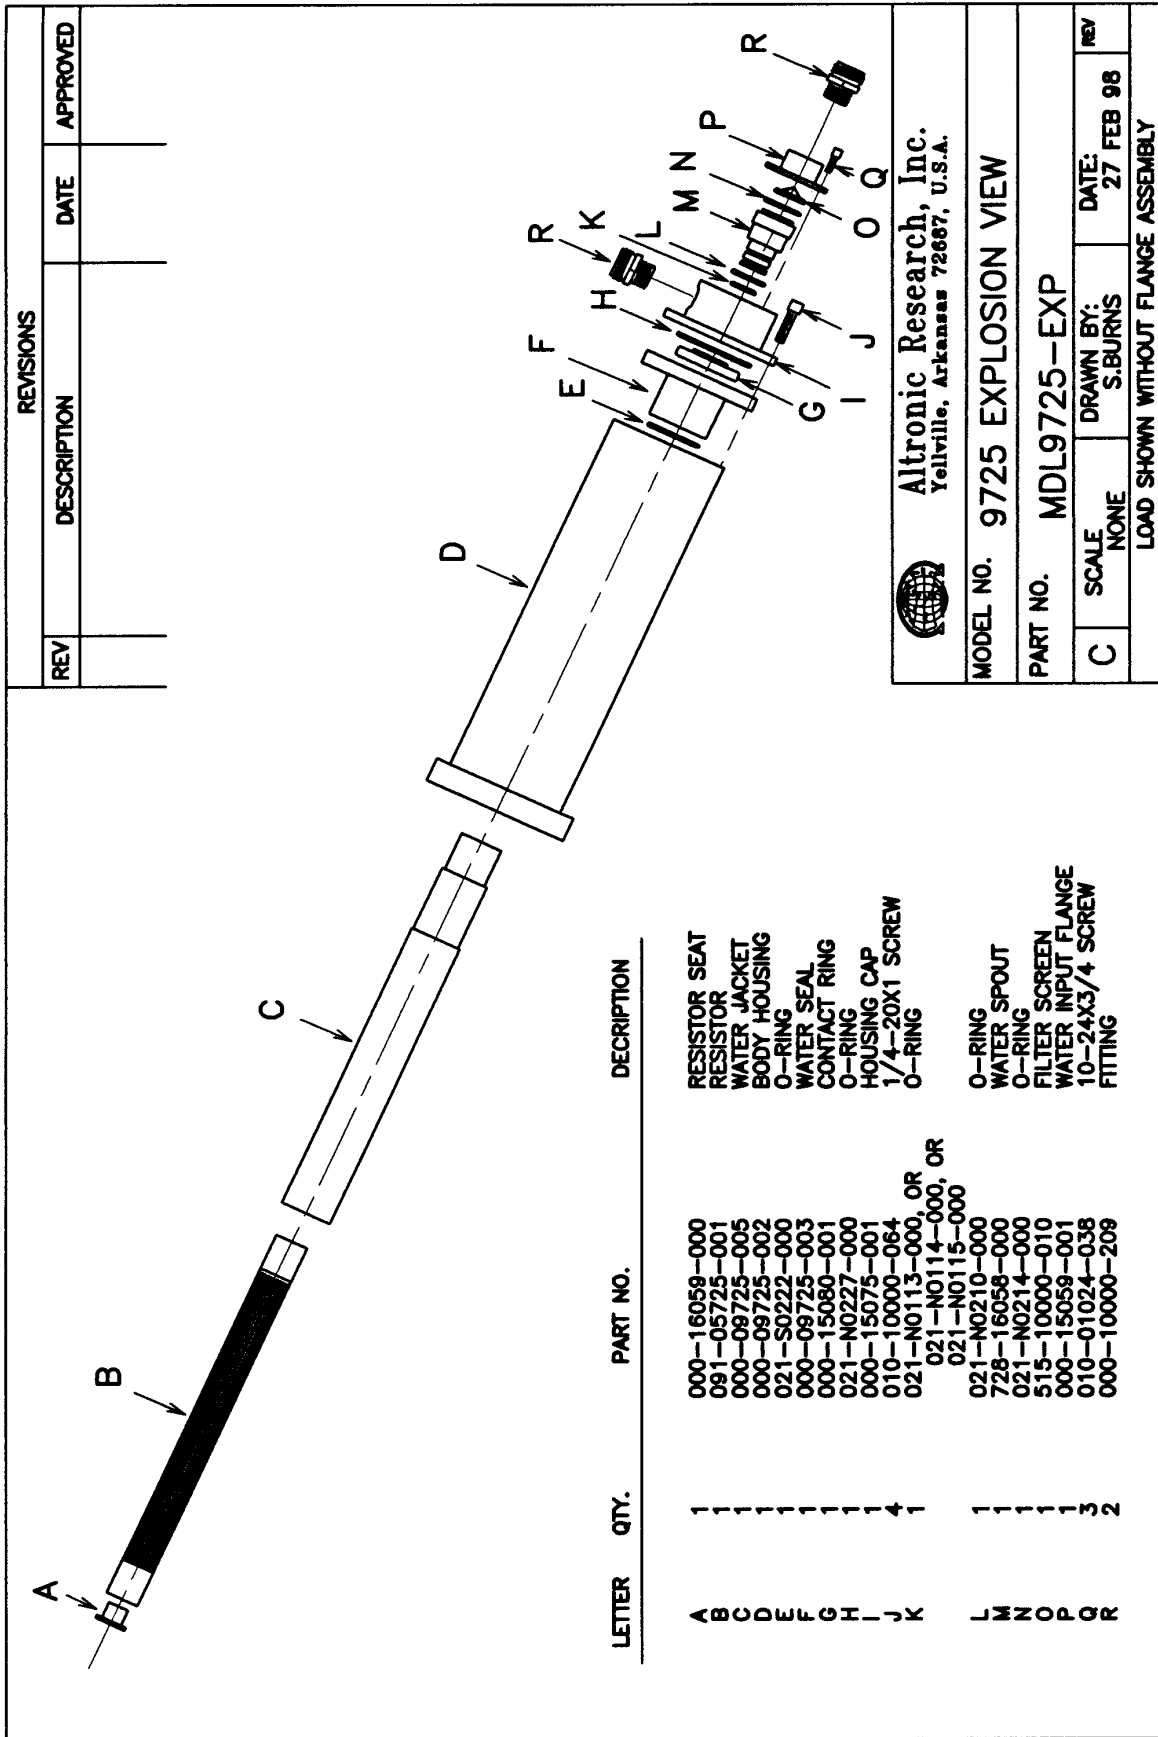
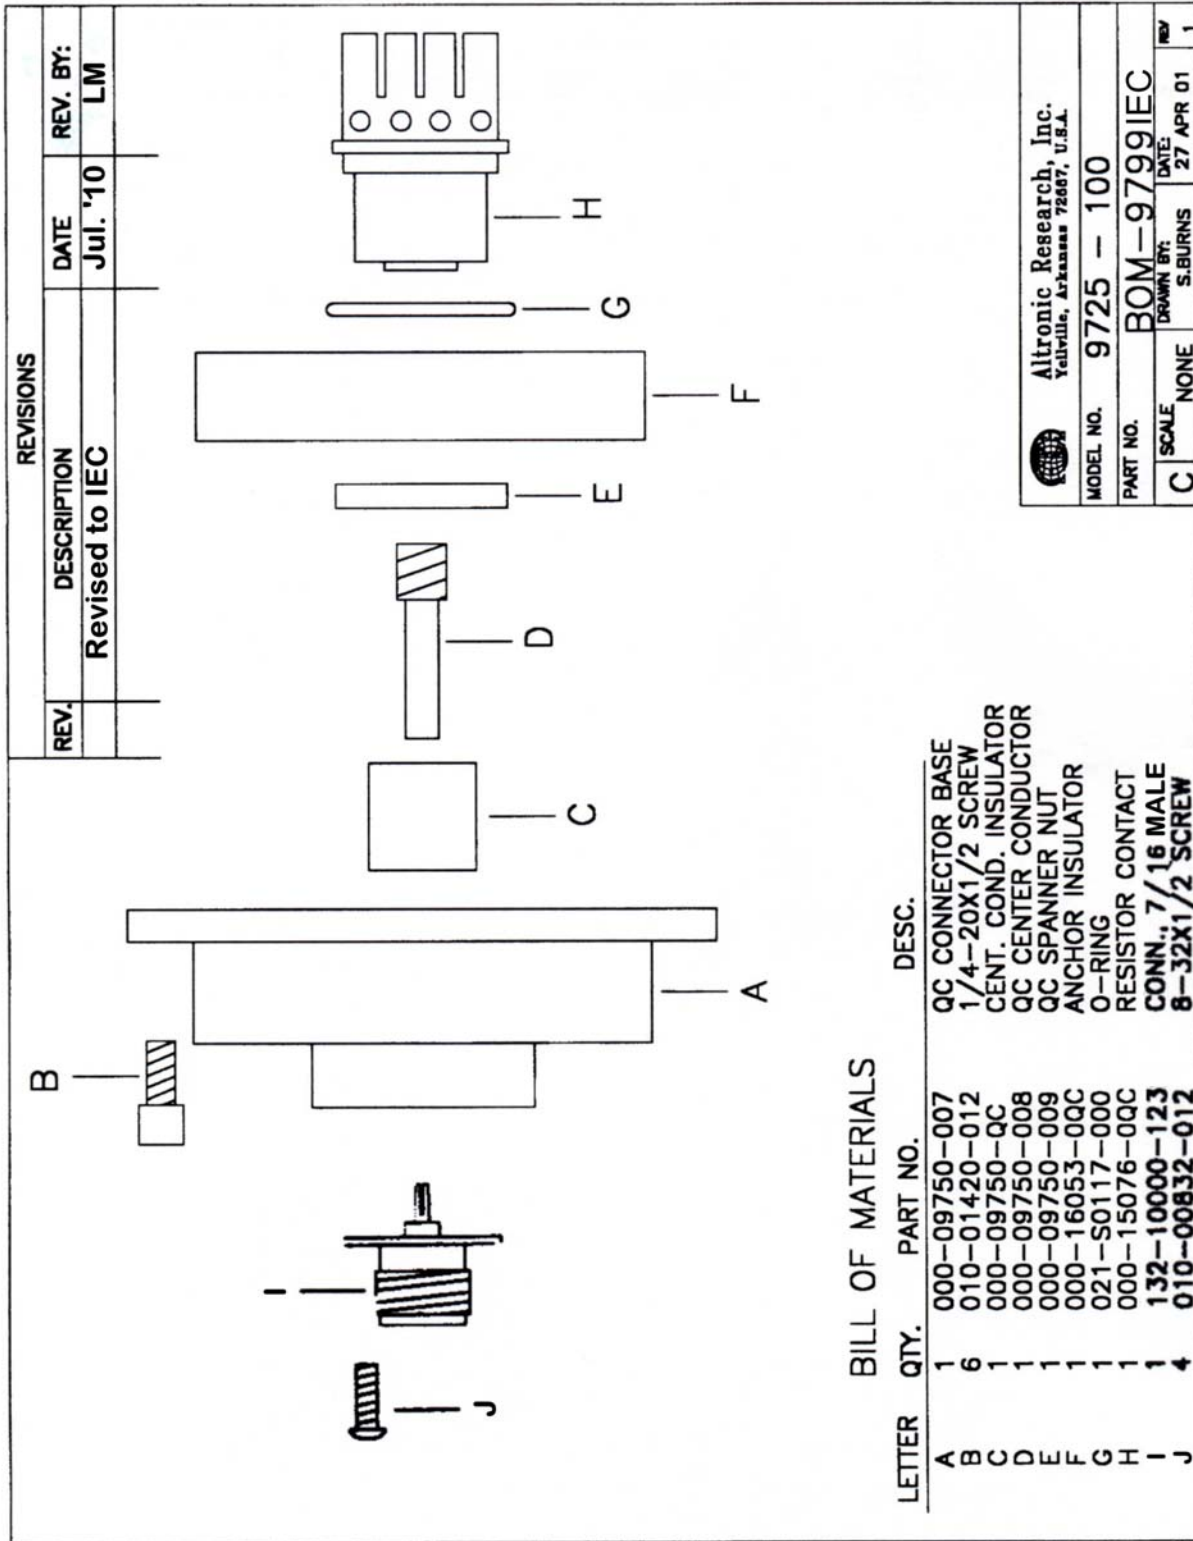

Fig. 14
Fig. 15
4. **Resistor Replacement** - (Refer to Fig. 14) To replace the resistor element, remove the three 10-24x3/8" cap screws (item Q). Remove water input assembly (items O, P, and R). Inspect filter screen for damage, replace if eroded or torn. Remove four 1/4-20x1" cap screws (item J). Remove housing cap assembly (items G, H, I, R, K, M and N). Inspect all O-rings for distortion or damage. Replace if pinched, cut, burned or no longer round in cross section. Inspect ring contact (item G) for signs of arcing or loss of silver in the area of contact with the resistor contact band. Replace if damage is noted. If
- 5. Removal of RF Input** - (Refer to Fig. 15) To remove the RF input line adaptor flange, remove six 1/4-20x1/2 socket head screws (item B) that secures the line adaptor flange (item A) to the load body housing (item D, Fig. 14). The RF input assembly consisting of the center conductor, anchor insulator and front resistor contact (items C, D, E, F, G, and H) will normally remain in the load body. Grasp the center conductor (item D) by hand and attempt to pull the input assembly out of the load body using slight side to side motion while pulling. If strong resistance is encountered, it may be necessary to chill the load to allow the anchor insulator to shrink away from the load housing. This can be done by placing the load in a freezer, or packing the load in ice for 20 to 30 minutes. Once the anchor insulator has shrunk away from the load housing, the RF input assembly should be easily removed. At this point of disassembly, all components of the load can be inspected or replaced as needed. Reassembly should be done in the reverse order of sequence.